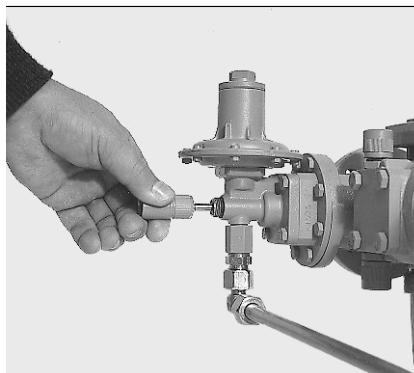

Fig. 5
- Unscrew sealing cap and pull back valve rod until it engages (Fig. 5, only possible if the outlet pressure is less than the SAV release pressure).